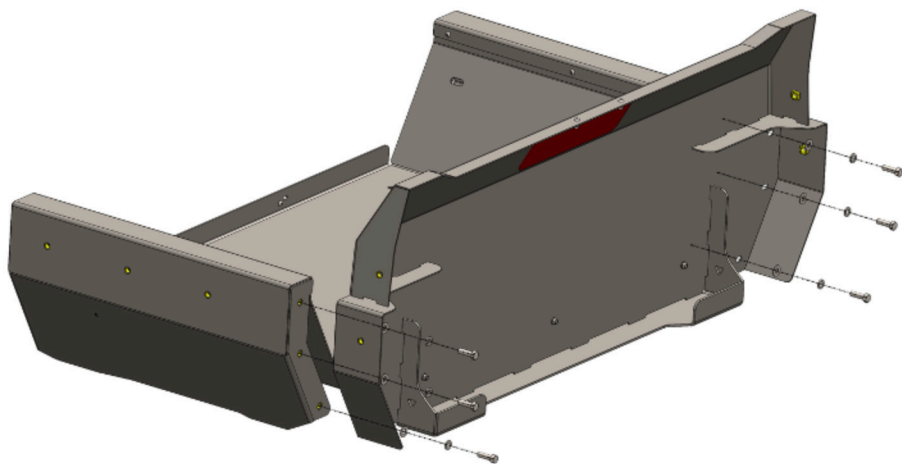

Figure 7
8. Install the bed riser to the parts assembled in step 6 using six (6) 3/8" hex head bolts with washers. Figure 7.